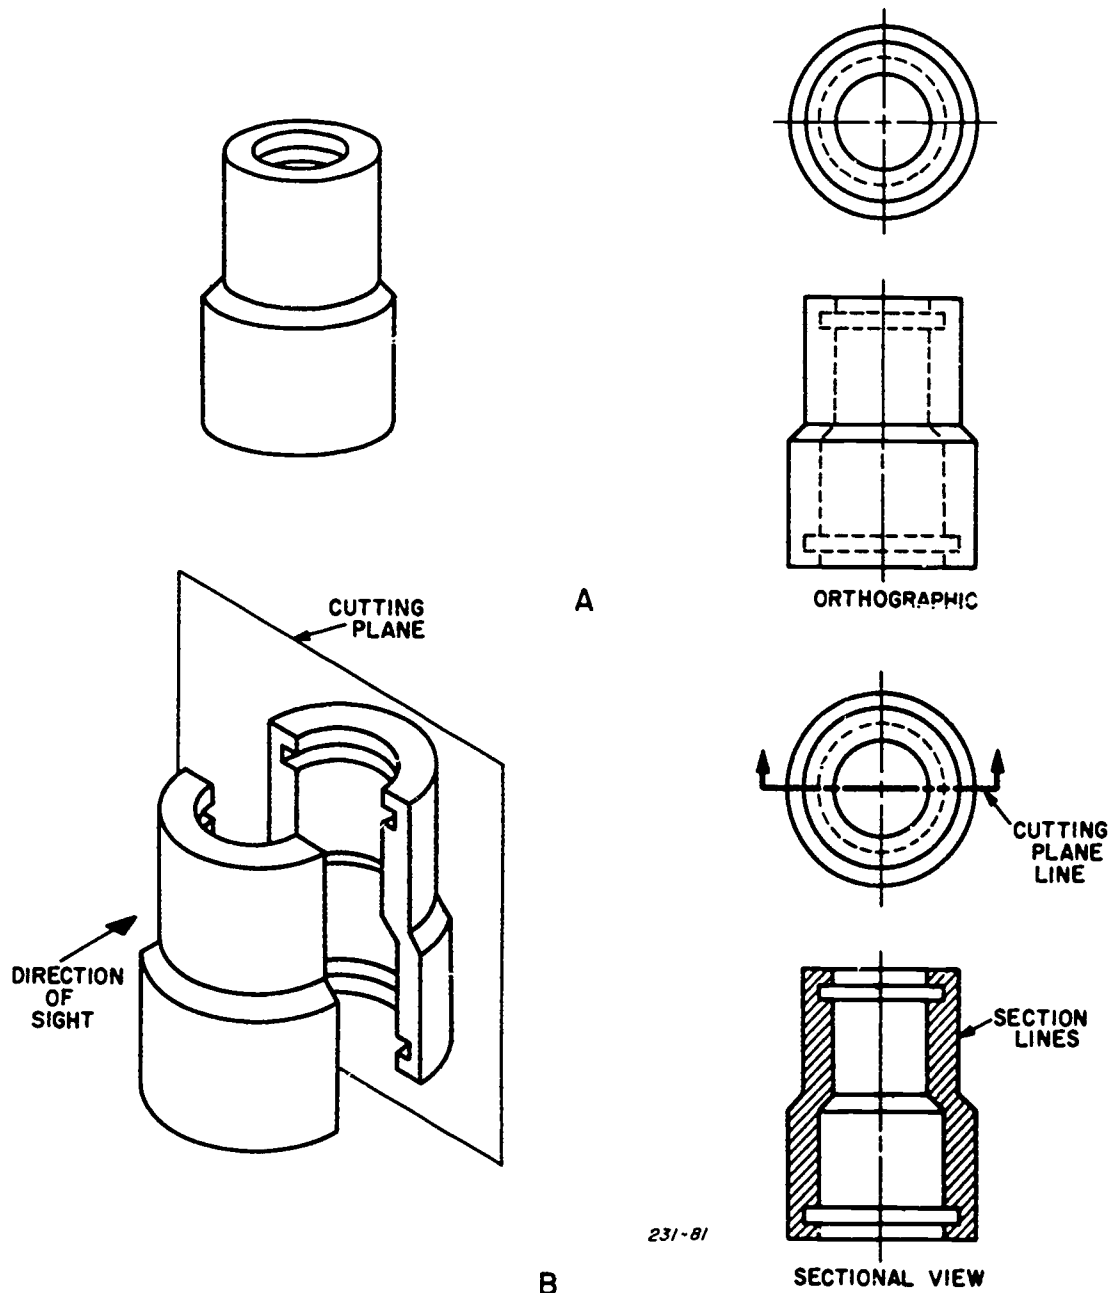

Figure 4-71. Principles of a sectional view.
**Cutting Plane Lines.** Since a sectional view is obtained by imaging the object to be cut by a plane passing through it in a selected position and direction, this plane is called the *cutting plane*. The purpose of the cutting plane is to cut off a portion of the object, thereby exposing the internal features in the remaining portion. The position and direction of the cutting plane are determined by you, the draftsman. You must visualize the object being cut by the plane placed in various positions, and then select the position which adequately exposes the desired internal details. The pictorial drawings in figure 4-71 show an object before and after being cut by a plane.
The orthographic top and front (exterior) views of the object are shown in part A of figure 4-71. Notice the hidden lines in the front view which are required to show the internal details. Part B shows the left portion of the object imagined to be removed by the cutting plane, thereby exposing the interior features in the right portion which lies behind the cutting plane. Observe that the hidden lines in the orthographic front view are shown as solid outlines in the sectional view. Notice how much clearer the internal features appear in the sectional view.
The arrow in the pictorial part of figure 4-71 shows the direction in which the remaining portion of the object is viewed. Section lines in the sectional view represent the surfaces cut by the cutting plane. In this figure, the sectional view is constructed by projecting from the top view in the same way as the front orthographic view.
A cutting plane line represents where a section of the object is imagined to be removed by the cutting plane. The cutting plane is indicated only in the view showing the plane as a line; therefore, a cutting plane line represents an edge of the cutting plane. The top edge of the cutting plane is shown by the cutting plane line in the top view of part B, figure 4-71.